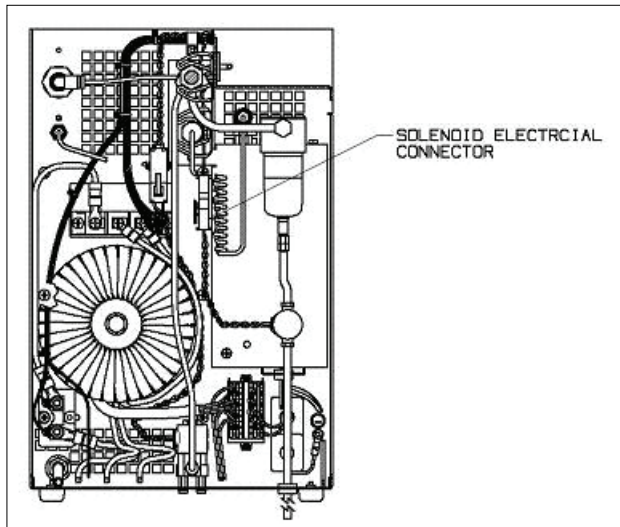

Figure 15 - View Toward Rear of Unit, Model FID-2500
- Disconnect solenoid valve connector (figure 15).